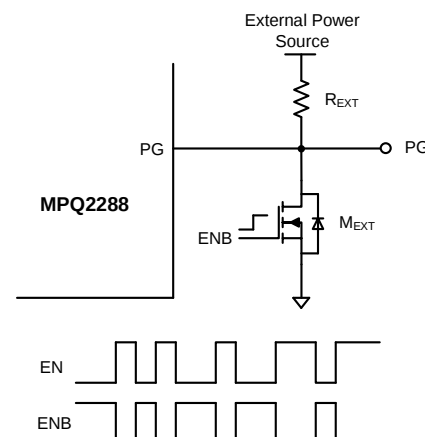

Figure 3: Recommended External Circuit for PG
The power good (PG) indicator is an open-drain output that indicates whether V_{OUT} is within the PG thresholds. PG can be connected to VCC through an external resistor (e.g. 100k Ω). When using the VCC pin as pull-up voltage source, PG will be at a low level when the part is disabled with EN=0V. When using the VCC pin as a pull-up voltage source, PG is at a low level when the part is disabled and EN = 0V. When using pull-up voltage sources other than VCC, an external circuit should be added to ensure that PG is at a low level when the part is disabled and EN = 0V (see Figure 3).